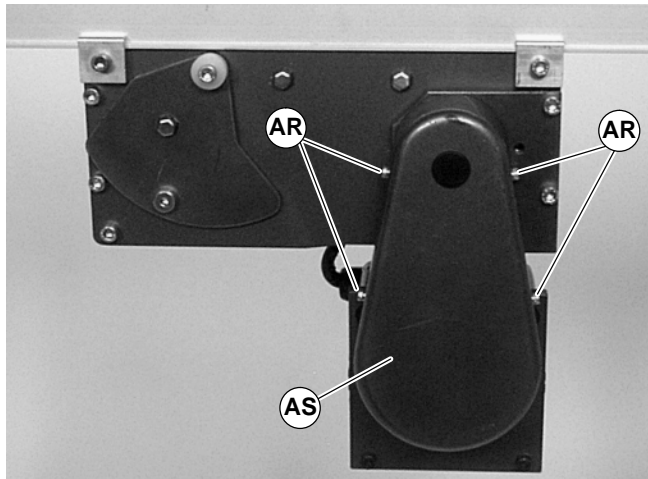

Figure 22
1. Remove cover screws (AR of Figure 22) and remove cover (AS).
NOTE: Figures 22 & 23 show vertically mounted gearmotor. Horizontally mounted gearmotor is similar.